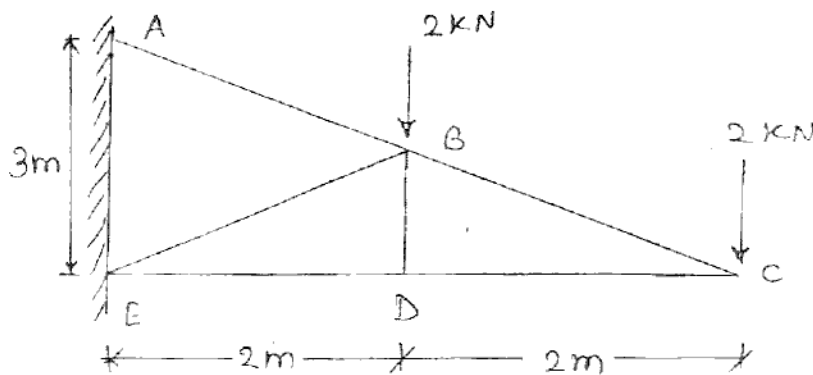

FIG. 3
3. Analyze the given cantilever truss of 4m span, carrying two point loads of 2 kN each as shown in the FIG. 3.